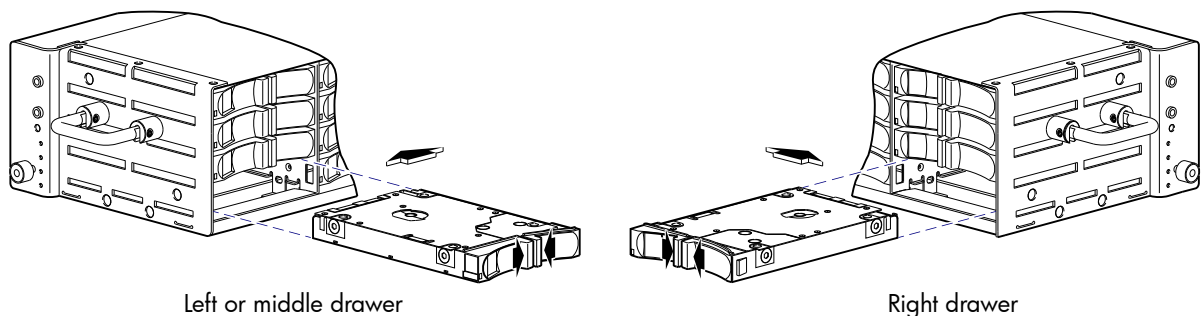
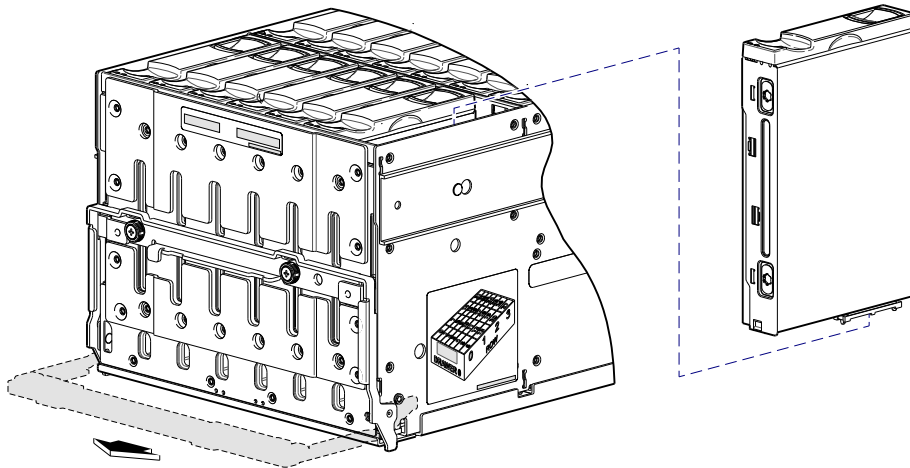

Figure 35 Aligning the disk drive module (2U48)
Figure 37 Install a disk into a drawer slot (4U56)
1. While supporting the bottom of the disk drive module with one hand (disk PCBA should be facing up and latch release flanges should be facing out)—align the disk drive module for insertion into the target disk slot (see illustration for appropriate drawer in Figure 35 on page 47).
2. Using your other hand, squeeze the latch release flanges together—so that the locking-nib will clear the sheet metal bay wall—and insert the disk drive module into the target slot (see illustration for appropriate drawer in Figure 35 on page 47).
- The disk module LED is shown in Figure 35 on page 47 or Figure 37 on page 48.
- Figure 37 shows PSU alignment with the rear panel of a 2U enclosure.